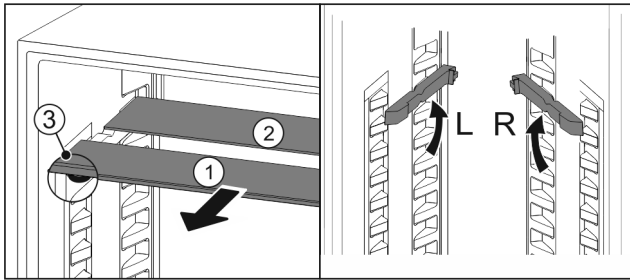

Fig. 119
- ▶ Pull the glass panels out Fig. 119 (1) from the front, one at a time.
- ▶ The glass panel Fig. 119 (1) with the trim strip is at the front.
- ▶ The stops Fig. 119 (3) point downward.